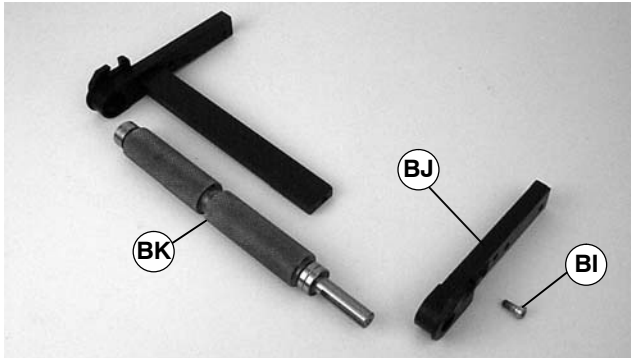

Figure 32
6. Remove screw (BI of Figure 32).
7. Remove headplate (BJ).
8. Remove pulley (BK).